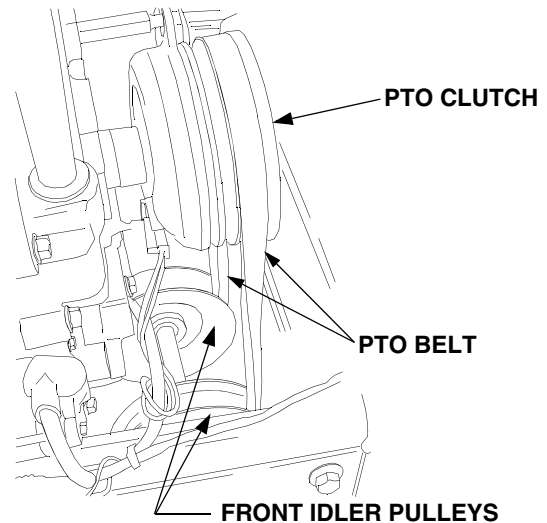

Figure 20
**NOTE:** Use the 754-0441 (D) PTO belt for **single cylinder engines ONLY**. Use the 754-3075 (E) belt for **twin cylinder engines ONLY**.
8. Install the appropriate PTO belt (D or E) on the PTO clutch pulley on the front of the engine by passing the belt upward inside the front of the tractor frame. Make certain the narrow side of the PTO belt engages the groove of the clutch pulley. See Figure 20.
9. Twist the PTO belt 1/4 turn inward to engage the narrow sides of the belt in the grooves of the tractor's two front idler pulleys. Refer to Figure 20.
6. Remove the PTO belt from the PTO clutch pulley and pass the belt downward through the bottom of the tractor frame to remove the belt from the tractor (Refer to Figure 20).